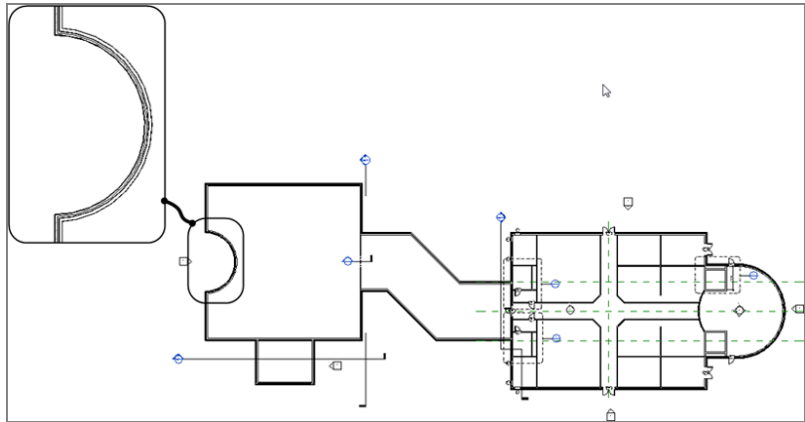

FIGURE 4.6: The radial portion of the west wing
2. Zoom in on the radial portion of the west wing, as shown in Figure 4.6.